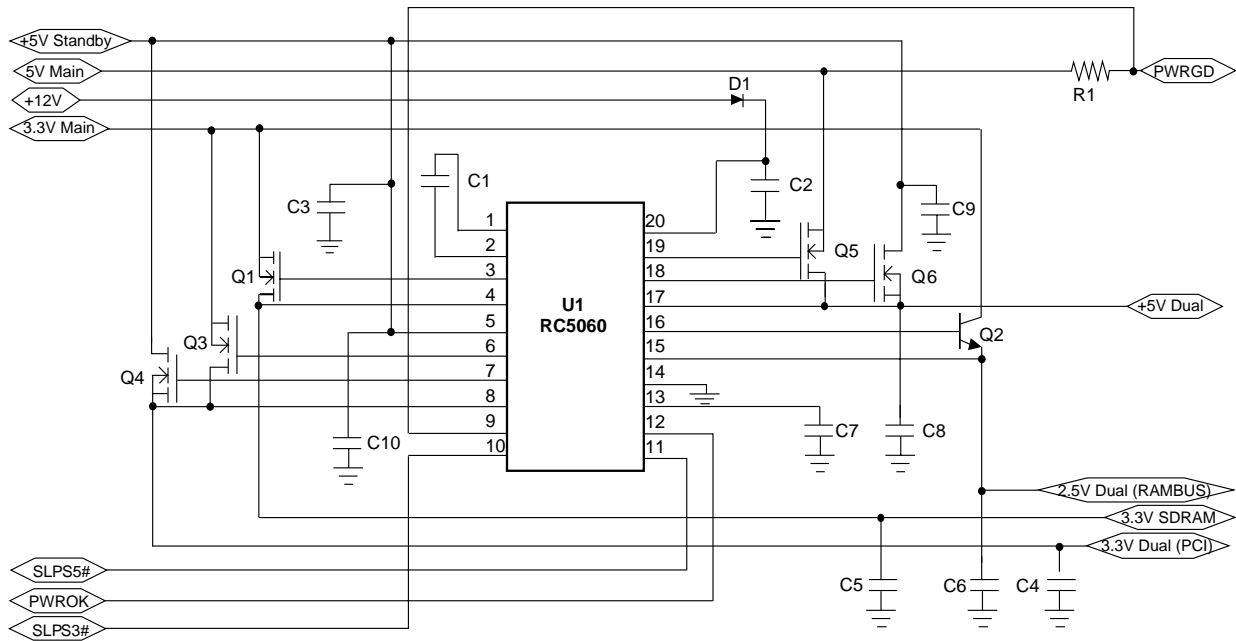

Figure 3. Camino ACPI Selector
($V_{+5VSTBY} = V_{+5VMAIN} = 5V$, $V_{+3.3V} = 3.3V$, $V_{+12V} = 12V$ and $T_A = +25^\circ C$ using circuit in Figure 3, unless otherwise noted.)
($V_{+5VSTBY} = V_{+5VMAIN} = 5V$, $V_{+3.3V} = 3.3V$, $V_{+12V} = 12V$ and $T_A = +25^{\circ}C$ using circuit in Figure 3, unless otherwise noted.)
5V dual is generated by two MOSFET switches, one from +5V main, the other from +5V standby, as shown in Figures 3 or 4. When main power is present, the first switch is on and the second off, and the opposite when main power is absent. Note carefully the polarity of the MOSFET Q5 that delivers power from the +5V main to the 5V dual: opposite to the connection of Q6, the source is connected to the +5V main input, and the drain is connected to the 5V dual output. This connection must be done this way because of Q5's body diode. When +5V main is not present, 5V dual is still on, and if Q5 were connected with the same polarity as Q6, the dual voltage would conduct through the body diode of Q5, attempting to power up the entire +5V main line. It is to avoid this overload that Q5 must be connected as shown.
3.3V dual is generated by two MOSFETs, one from +3.3V main, the other from +5V standby, as shown in Figures 3 or 4. When main power is present, the MOSFET Q3 is turned on as a switch, so that input and output are connected together. When main power is absent, the MOSFET Q4 is controlled by the RC5060 as a linear regulator, generating a regulated 3.3V from +5V standby. As with the 5V dual, the MOSFET Q3 must be connected as shown in the figures, to avoid back-feed.
3.3V SDRAM is generated by one external MOSFET switch from +3.3V main, and one linear regulator internal to the RC5060 from +5V standby, as shown in Figures 3 or 4, and in the block diagram on the front page. When main power is present, the MOSFET Q1 is turned on as a switch, so that input and output are connected together. When main power is absent, the internal linear regulator is on, generating a regulated 3.3V from +5V standby. As with the other duals, the MOSFET Q1 must be connected as shown in the figures, to avoid back-feed.
2.5V dual is generated by one external NPN bipolar acting as a linear regulator from +3.3V main, and one linear regulator internal to the RC5060 from +5V standby, as shown in Figure 3, and in the block diagram on the front page. When main power is present, the NPN Q2 linear regulates, and when main power is absent, the internal linear regulator is on. Q2 cannot be substituted with a MOSFET. If used in one direction, the MOSFET's body diode would permit back-feed; if used in the other direction, it would short-circuit the linear regulator action.
In main power operation, the RC5060 is run from the +12V main supply. This supply also provides voltage to the various MOSFET gates. However, during standby, this supply is off. To provide power to the chip and the appropriate gates, the RC5060 incorporates a free-running charge pump. As shown in Figures 3 and 4, and in the block diagram on the front page, a capacitor attached between pins 1 and 2 of the RC5060 acts as a charge pump with internal diodes. The charge pump output is internally diode or'ed with the 12V input. The 12V input must have a series diode to prevent back-feeding the charge pump to the +12V main when in standby. The 12V input line needs a bypass capacitor for high-frequency noise rejection.